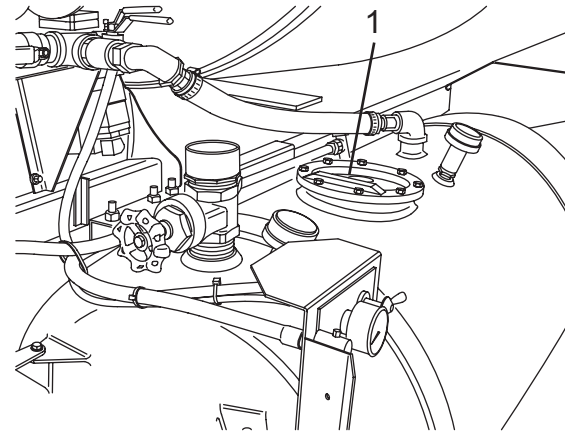

Figure 107
2. Place the water supply hose in the water tank flopper valve (Figure 107, Item 1) and fill the tank.